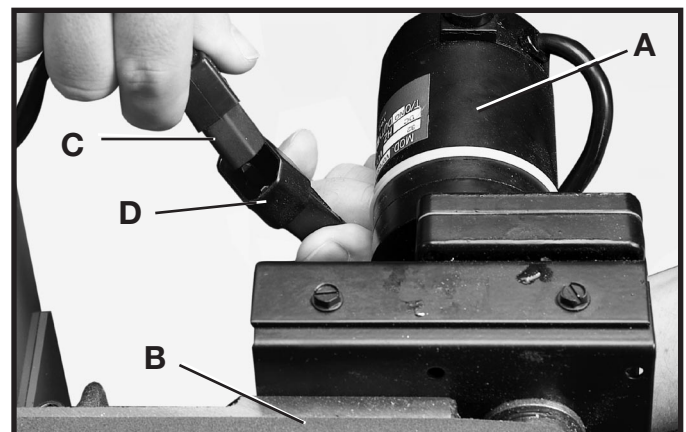

Fig. 10
WARNING The table feed motor (A) Fig. 10 is located on the side of the feed table (B). Before connecting the feed motor to the feed-speed switch disconnect machine from power source.
1. Insert the feed/speed switch assembly connector (C) Fig. 10 into the motor connector (D). Connector is polarized and will fit only one way.
1. Disconnect the DC Motor Quick Connect. (see Fig. 10).